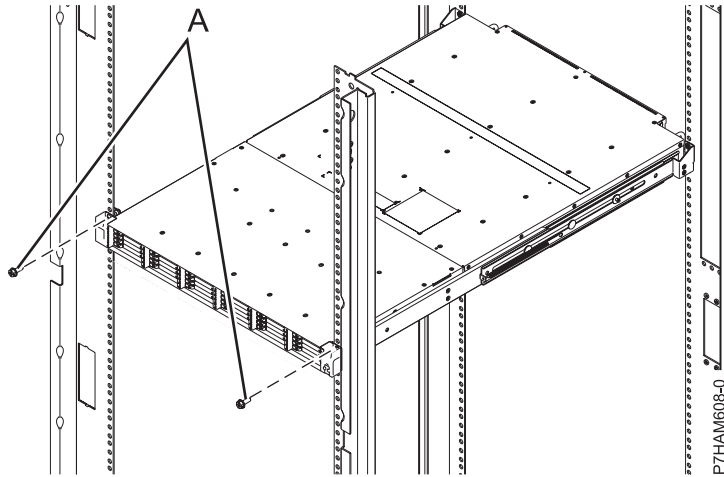

Figure 15. Securing the front of the enclosure to the rack
- e. Secure the front of the enclosure to the rack flanges by applying the securing screws (A) through the top open holes in each bracket and into the top EIA holes, as shown in Figure 15 on page 14.